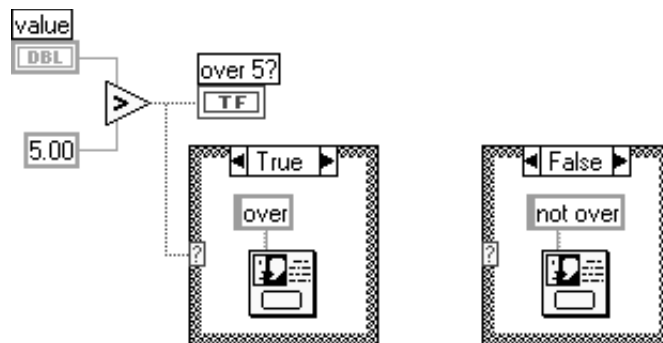

Figure 1-46
3. You can move from one case to the other by clicking on the little left/right arrows on the top of the Case Structure  . See Figure 1-46.